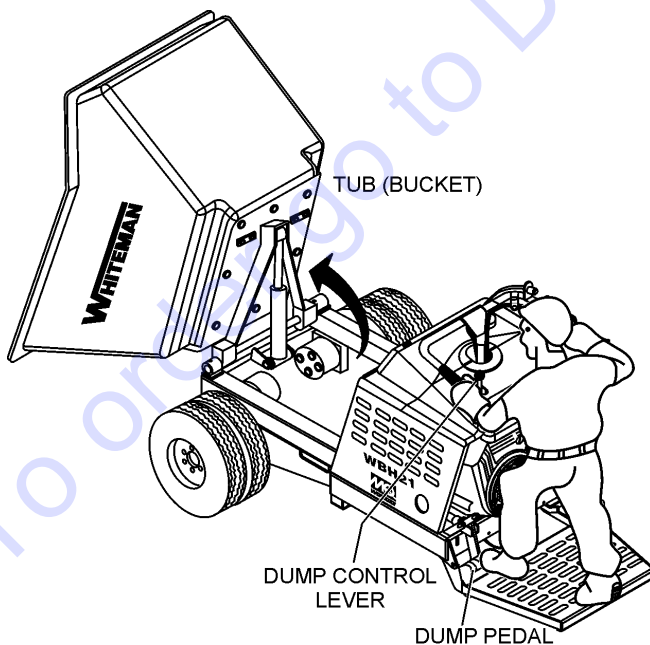

Figure 24. Tub Vertical Position
1. To place the tub in the vertical position (Figure 24) press down on the dump pedal or move the dump control lever forward. The tub will move to the vertical position as long as pressure is continuously applied to the dump pedal or the dump control lever is held in the forward position.